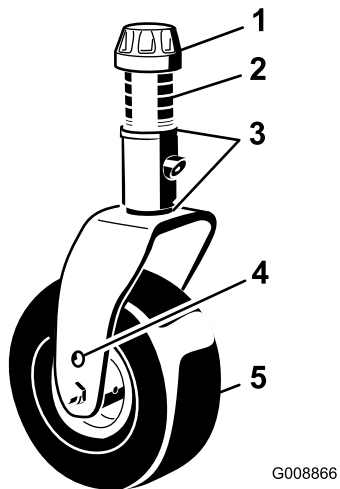

Figure 30
3. Adjust the shims (3 mm or 1/8 inch) on the front caster fork(s) to match the height-of-cut decal (Figure 30); refer to Adjusting the Height of Cut (page 29).